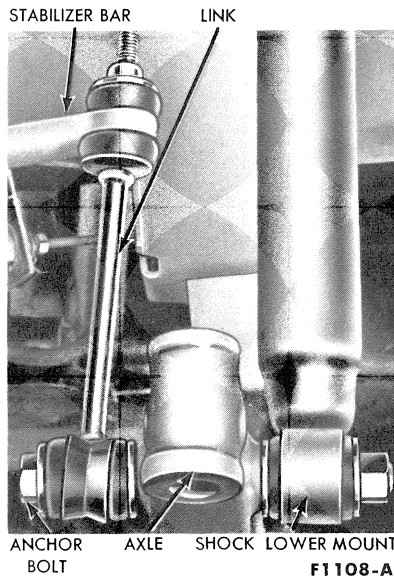

FIG. 3—Shock Absorber and Stabilizer Link Lower Connections
2. Remove the shock absorber lower attaching nut and washer (Fig. 3).
3. Remove the nut and washer from the anchor bolt that attaches the lower end of the shock absorber and stabilizer bar link to the axle. Tap the anchor bolt out of the shock absorber, axle, and link (Fig. 3).